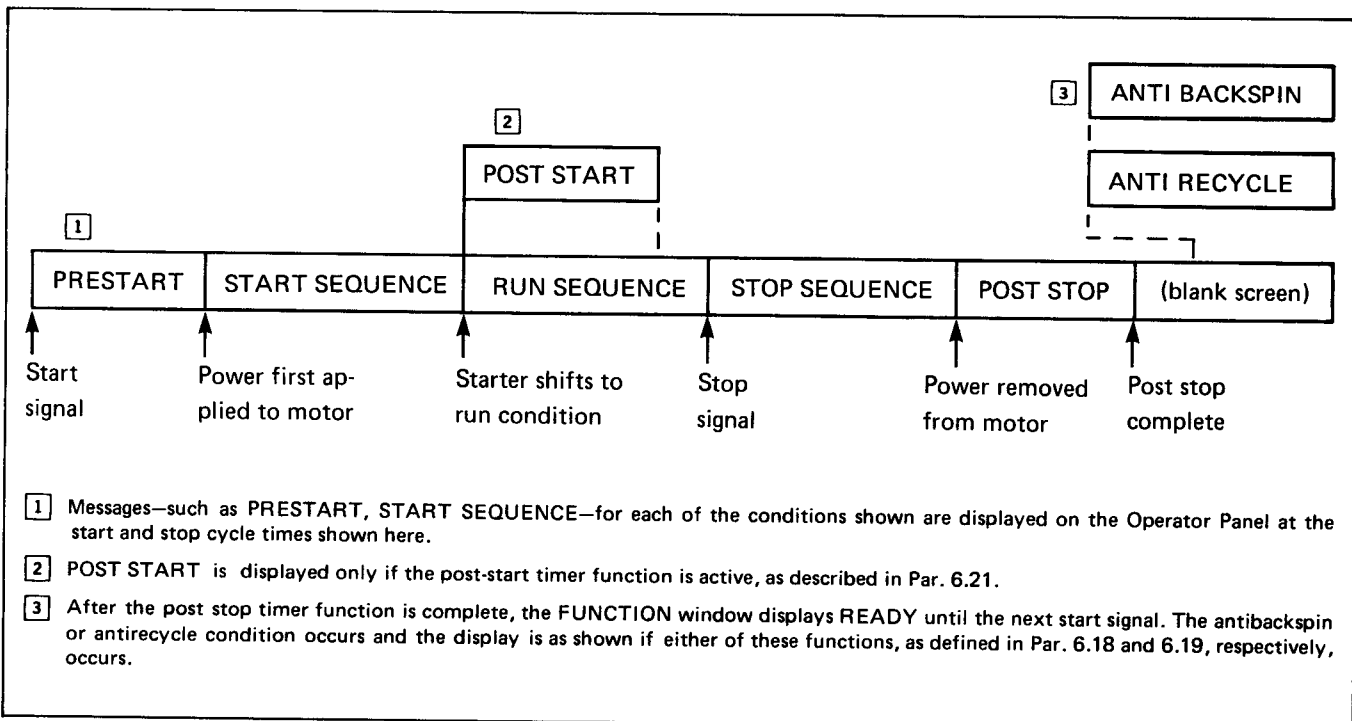

Figure 7.1 – Display/Run Sequence Relations
7.1.1 Normal Operational Reporting – The FUNCTION window of the Operator Panel provides a reporting function that occurs during the normal operation of the IQ-2000. Commands such as START SEQUENCE and POST STOP are used to report the various sequences involved with starting, running and stopping the motor. Figure 7.1 shows the relationship among the displays and the various operations of the IQ-2000.